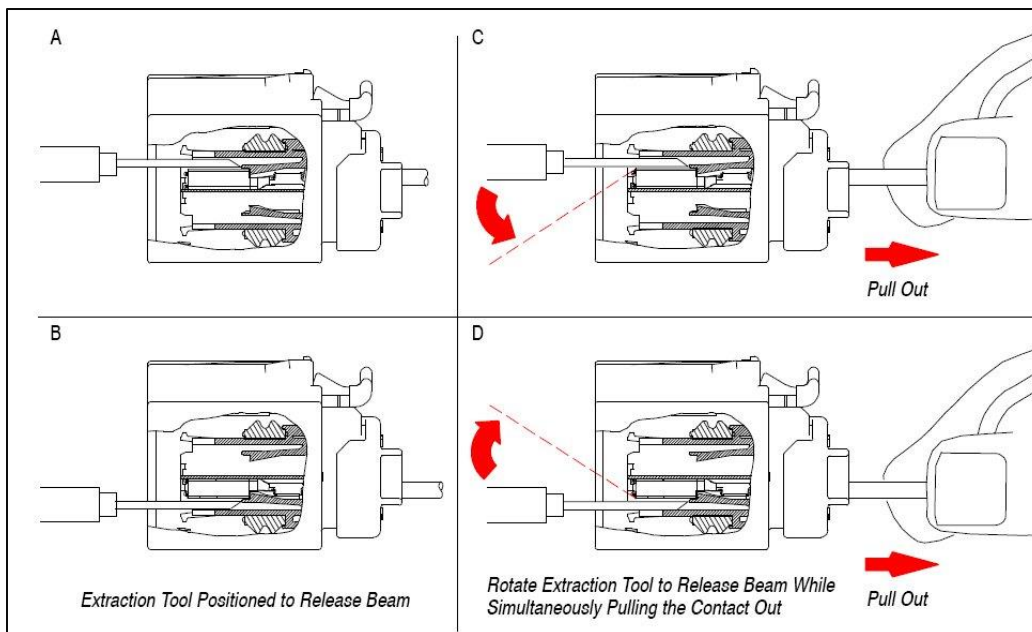

Figure 3-11. Terminal Removal Procedure
c) Refer to **Figure 3-11** for contact removal process.